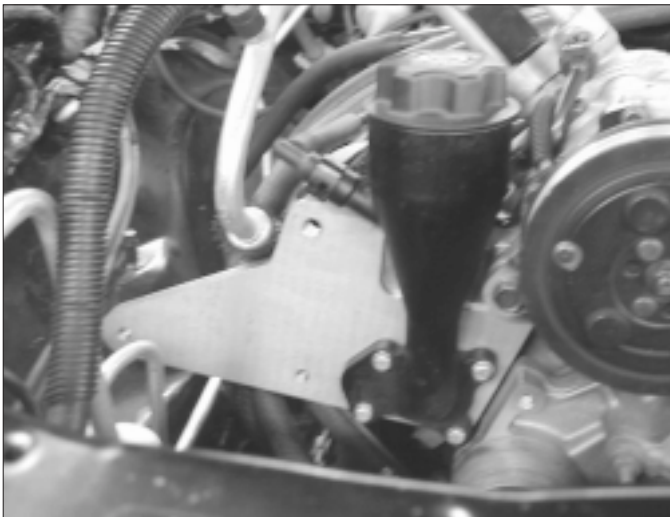

Fig. 3.2-b
- C.** Trim the plastic hose that connects to the oil filler by cutting it off just before the second barb (approx 3/4"). Do not remove the second barb as this keeps the hose from coming off under boost. (See Fig. 3.2-c.) Install the supplied longer hose. The oil fill will be reinstalled at a later stage of the installation.